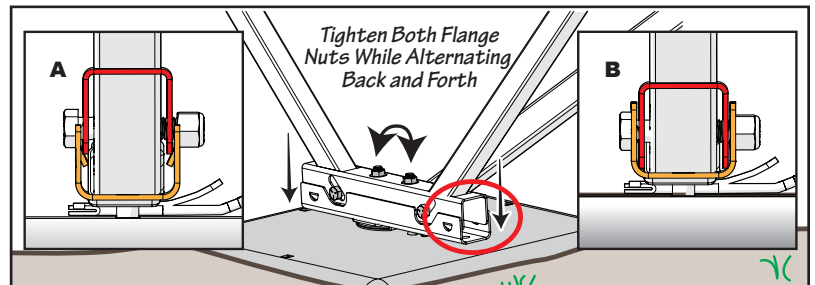

Fig. 4-4
- As the flange nuts tighten, the upper tension bracket will compress downward into the lower tension bracket as shown in Fig 4-4 "A".
- Continue tightening the flange nuts until the upper bracket fully compress into the lower tension bracket as shown in Fig. 4-4 "B"